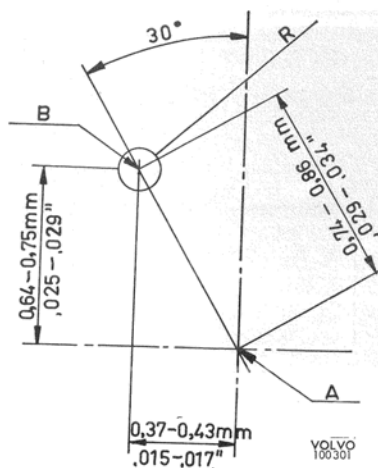
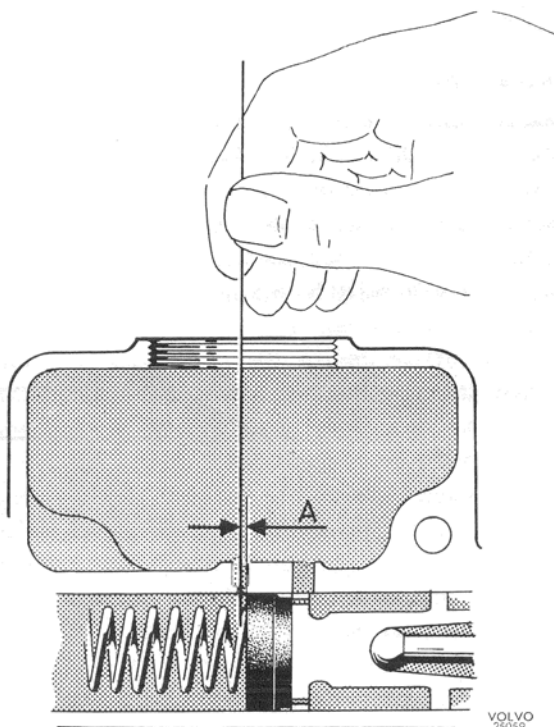

Fig. 16. Eccentricity for rear lining (bonded type) for front wheels
Fig. 23. Checking the equalizing hole
The bonding procedure varies with different makes of oven and testing units, so that a generally applicable description cannot be given. Therefore follow carefully the recommendations of the manufacturer. When fitting the lining, make sure that it does not come obliquely on the shoe and that it is placed as shown in Figs. 16 to 19. On the rear brake shoes (secondary shoes) of the front wheels 1/4" linings should be fitted and on the other shoes 3/16" linings. When bonding, only bonding compound specially made to withstand high temperatures arising during long braking must be used.
As the rear brake linings for the front wheels should be ground eccentrically, a grinder is required for this which is adjustable for this type of lining. As there are different makes of such machines, the grinding procedure will depend upon the design of the grinder. Fig. 16 shows how much the pivoting centre should be displaced in relation to the brake shoe centre for grinding the eccentric lining. For other types of linings, the pivoting centre coincides with the centre of the brake shoe.
2. Fit the rear packing on the plunger (8). Dip the plunger and packing (9) in brake fluid and press them into the cylinder. Place the stop washer (7) in position and fit the locking ring (6).
3. Place the thrust rod (4) in the plunger (8) and pull the rubber cover (5) over the shoulder on the master cylinder. Fit the three-way union (1) with brake contact.
4. Check that the equalizing hole is clear by pushing a 0.5 mm (0.02") wire through it (Fig. 23). It should then be possible to press the plunger in about 0.5 mm (0.02") (A, Fig. 16) before the wire becomes caught. Be careful to avoid damaging the packing. If the equalizing hole is not clear, this usually means that the master cylinder has been incorrectly assembled.